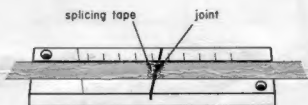

Fig. 7. Splicing the tape.
8. Cut a small piece of splicing tape (about $\frac{1}{2}$ ") and apply firmly to both sections of tape. Trim off excess splicing tape. See Figs. 7 and 8.